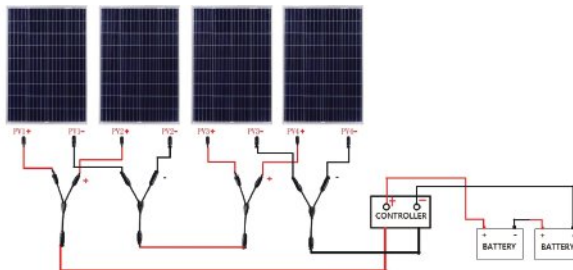

Figure 7.3.3
**Step 6:** Connect the extension cable to the Controller (terminal marked as solar). Figure 7.3.3